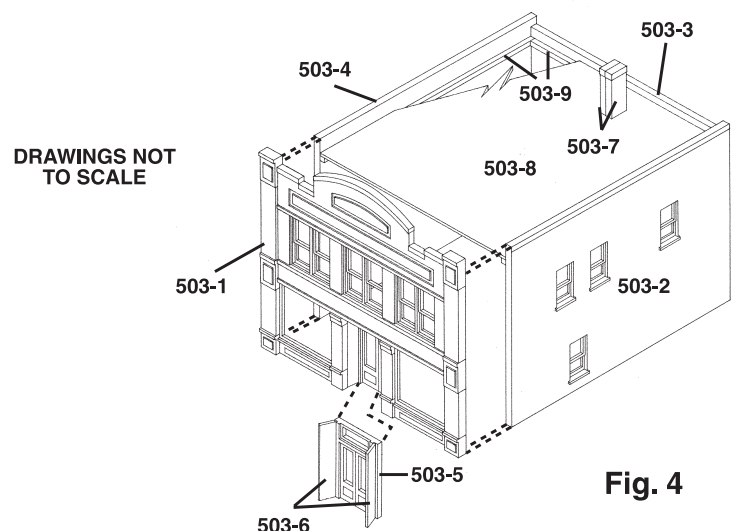

Fig. 4
1. Using Side Panel Material (white styrene strip), cut two Entry Door Side Panels (503-6) the same height as Entry Door (503-5) (Fig. 4).
3. Glue Entry Door Assembly to backside of Front Wall (503-1) (Fig. 4).
1. Glue Roof to Roof Supports (Fig. 4).